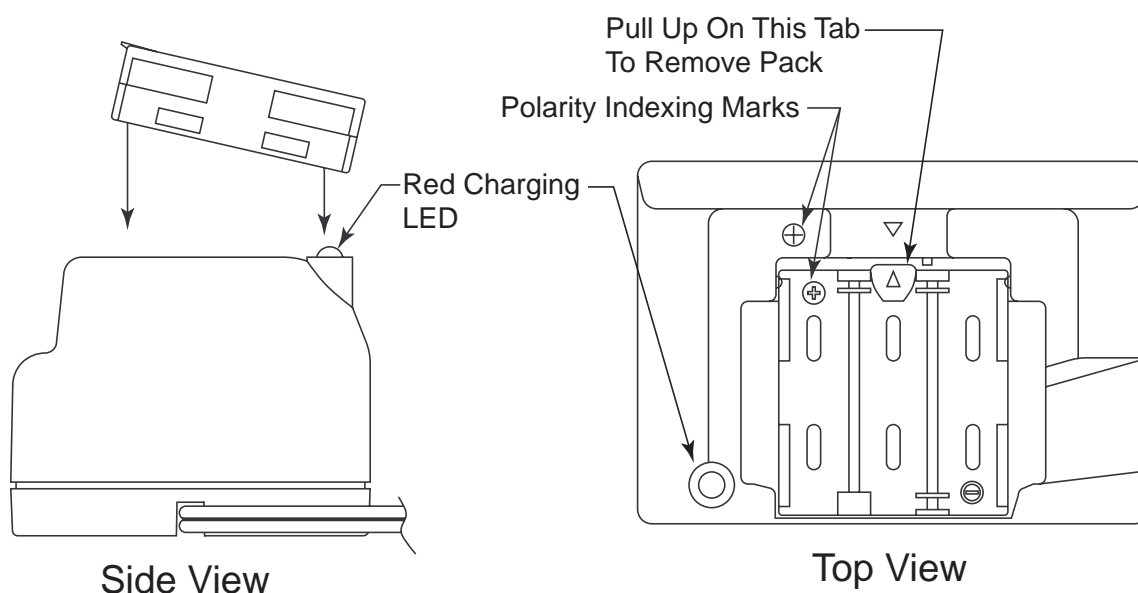

Figure 7: Putting the Battery Pack into the Charging Station
2. Insert the battery pack into the charging station as shown in Figure 7 below so that the metal contacts on the ends of the battery pack come into contact with the metal contacts in the charging station. When proper contact has been made, the red LED on the charging station will turn on.